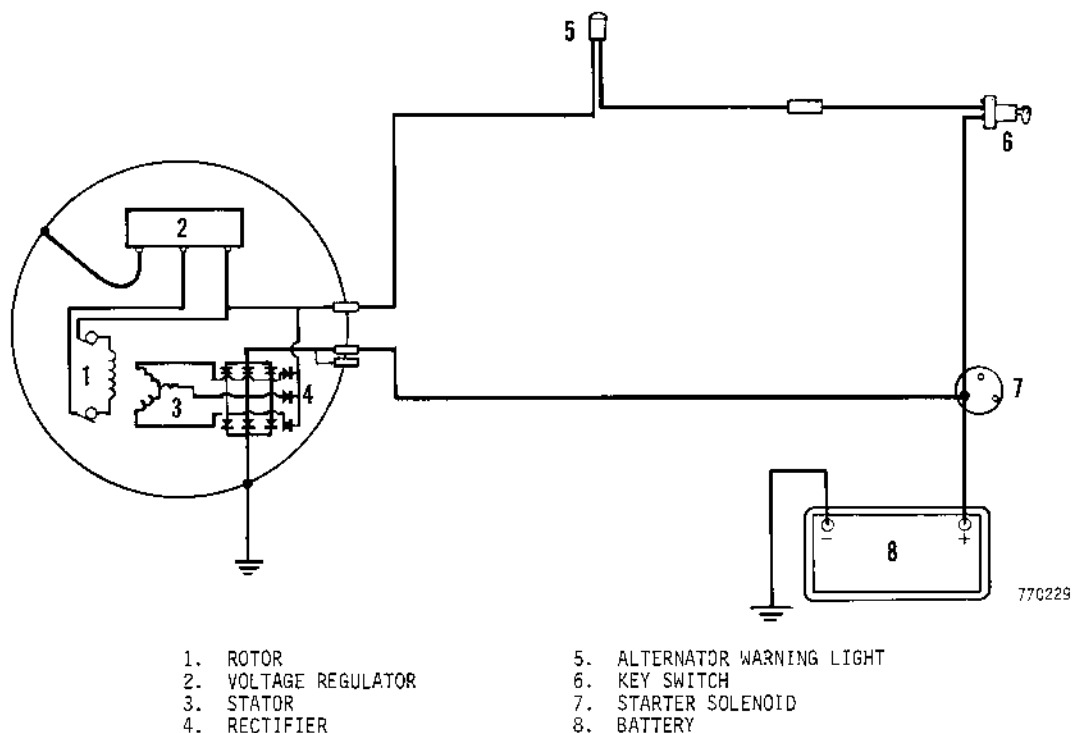

Figure 1 - Alternator Charging Circuit
The alternator charging circuit consists of the battery, alternator with self contained voltage regulator, key switch, alternator warning light, and related wiring. The circuit is schematically illustrated in Figure 1.
11. Install new filter and secure in place with washer, spring and nut. Screw nut onto stud to obtain the dimension shown in Figure 1. The nut must be properly installed to prevent damage to the reservoir.